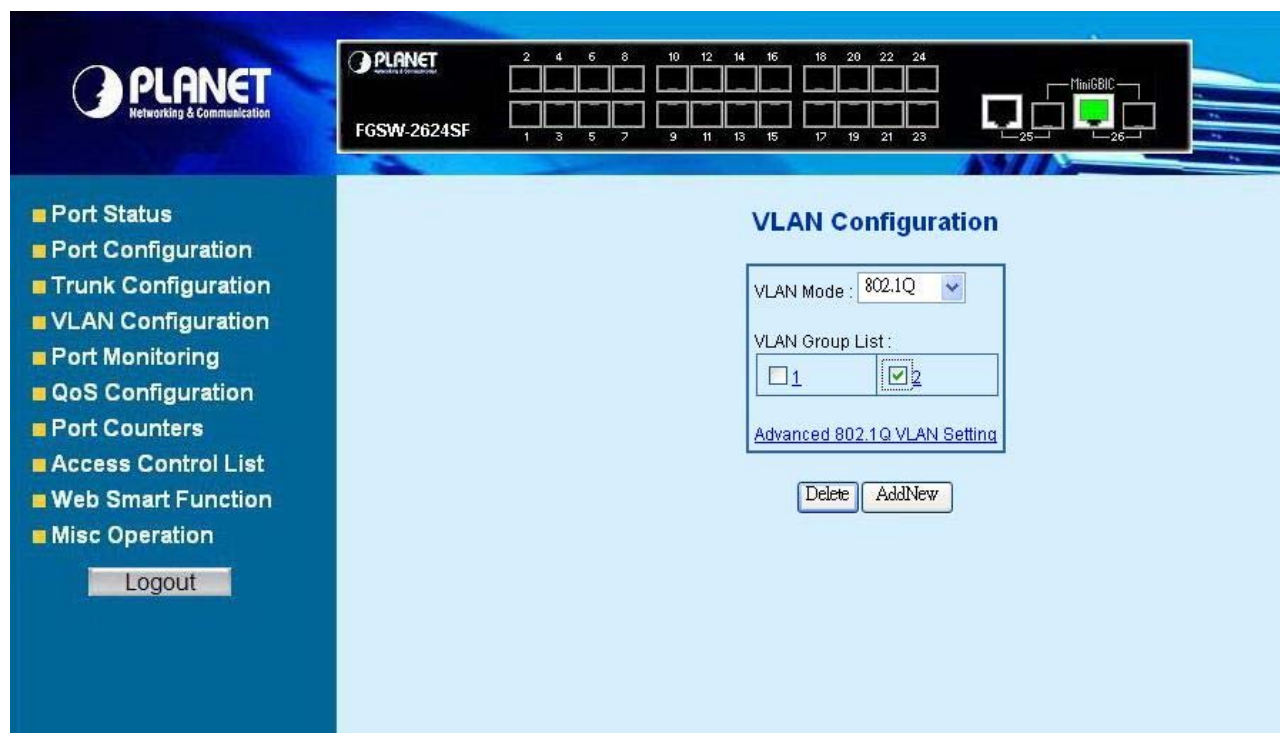

Figure 4-37 Delete 802.1Q VLAN group Web Page screen
1. Check **existence VLAN group ID** and the screen in Figure 4-37 appears.